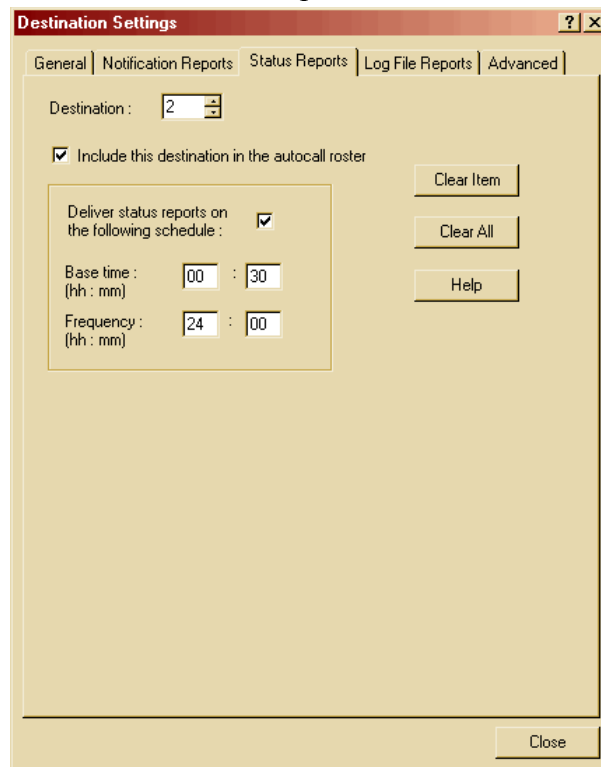

Figure 24: Destination Settings, Status Reports
22. Select the **Status Reports** tab for Destination #2 and configure it as shown in Figure 24. The status report will be delivered via FAX every day at 30 minutes after Midnight.